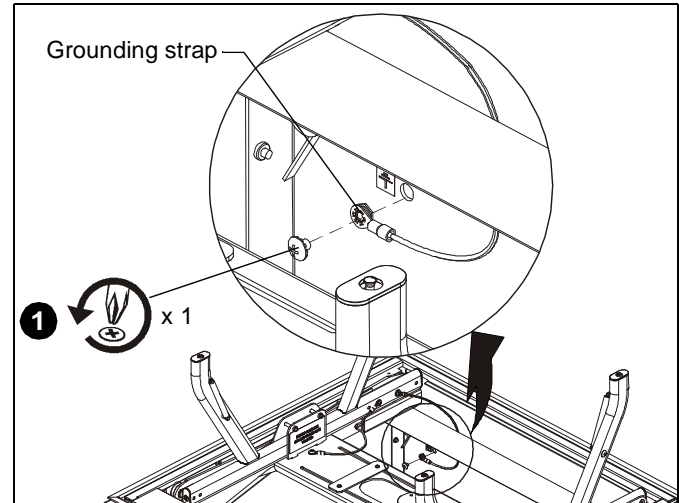

Figure 12
1. Remove and save Phillips head screw and disconnect the grounding strap leading from inside front of SL220 to projector cradle. (See Figure 12)